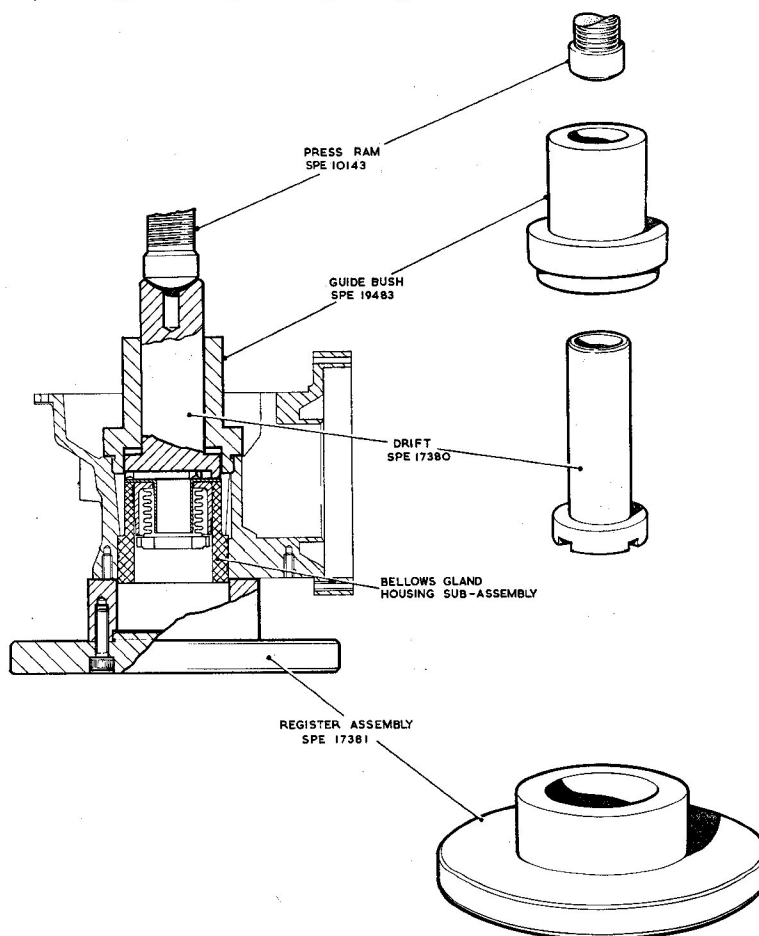
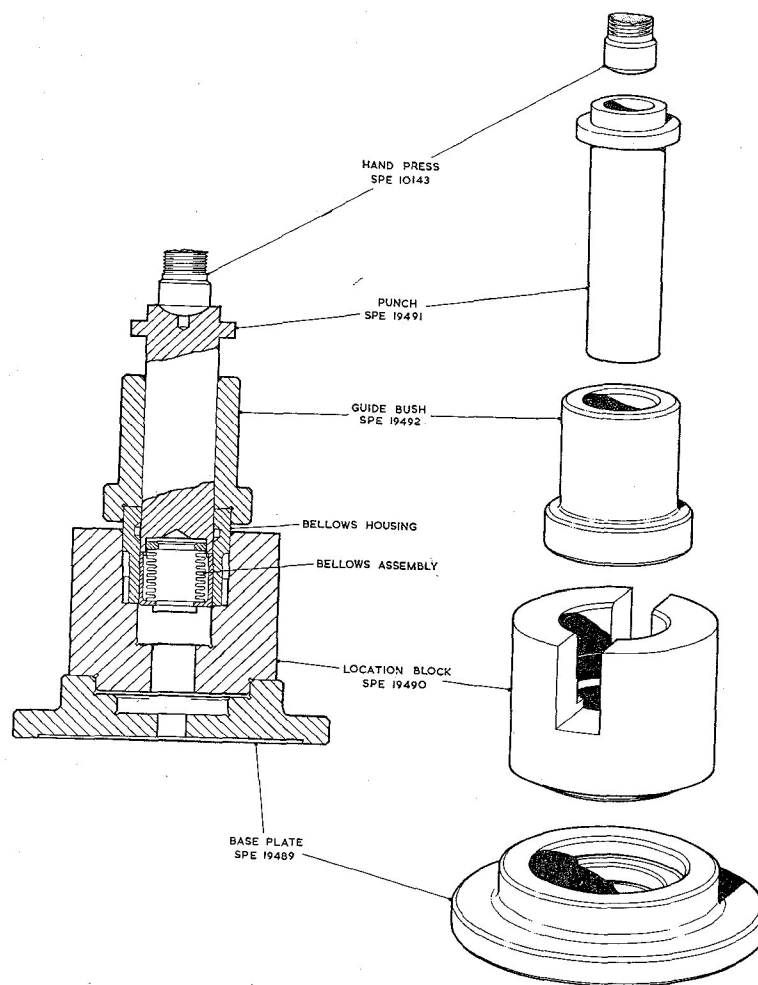

Fig. 18. Bellows housing removal
Fig. 19. Bellows gland removal from housing
- (1) Pre-heat the pump casting to 125-150 deg.C., and use the tools illustrated in fig. 18 to press out the bellows unit assembly.
- (2) Remove the three self-tapping screws (153) and withdraw the bellows sleeve (202).
- (3) Use the tools illustrated in fig. 19 and press the bellows gland out of its housing.